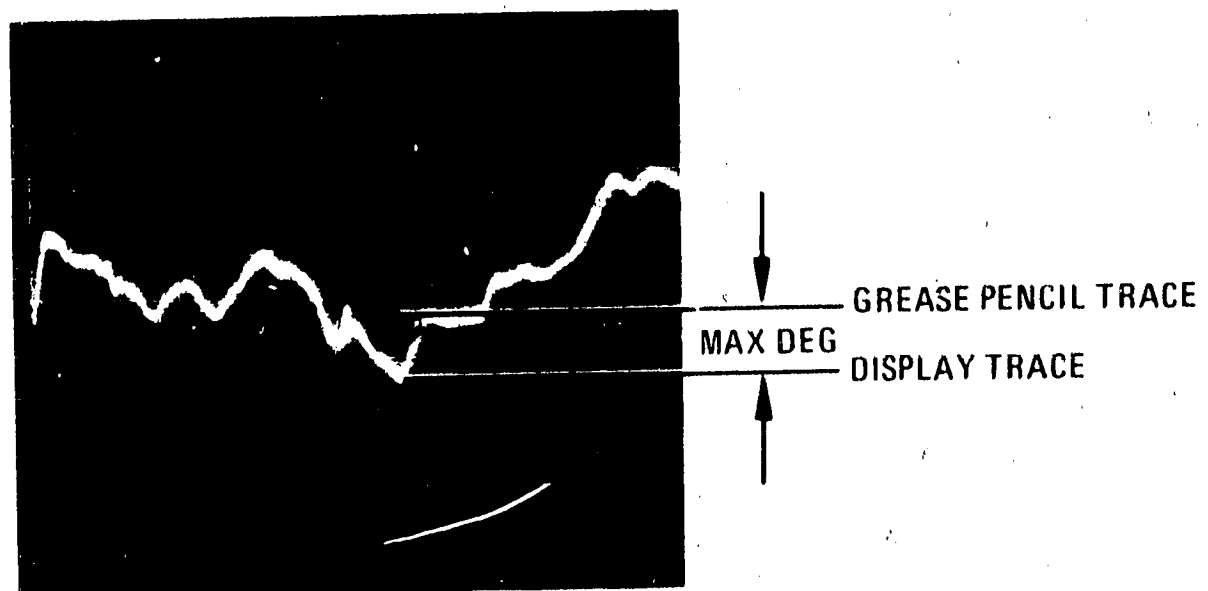

Figure 4-3. Transmission Frequency Response Phase
- p. Measure the maximum difference between the grease pencil trace and the display trace (Figure 4-3). This measured value should be  $\leq \pm 12^\circ$ .